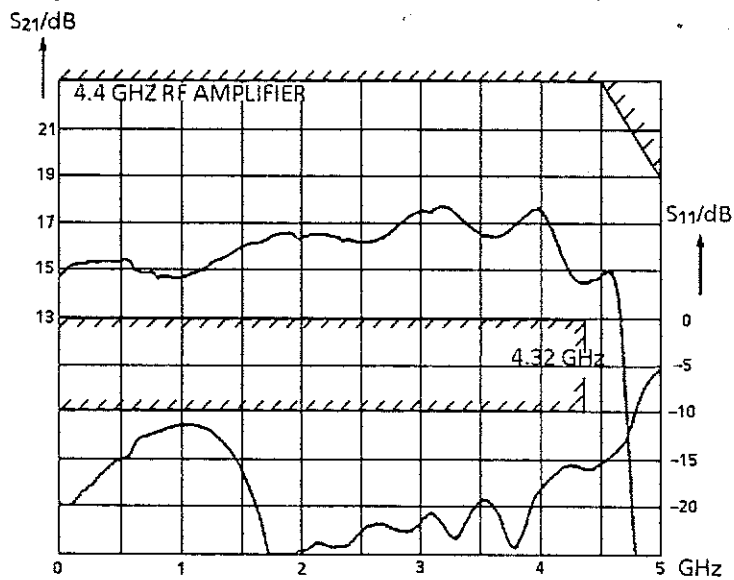

Fig. 5-3 $|S_{11}|, |S_{21}|$ for X164 to X161, typical curves and tolerance masks
- Set a frequency of 3 GHz, connect input X164 and check S11, S21 according to Fig. 5-3.